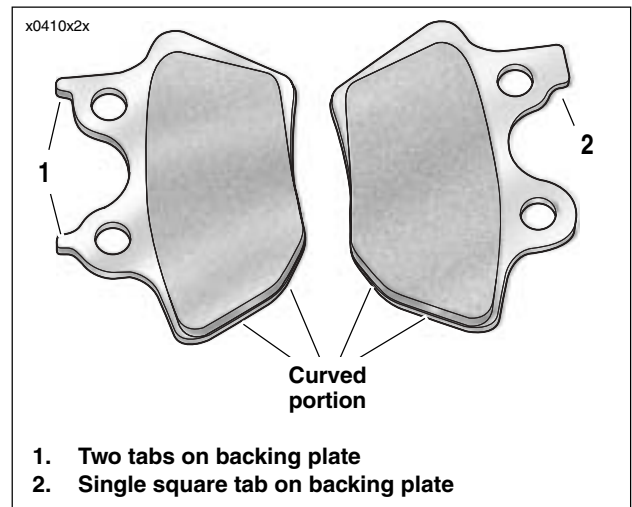

Figure 1-14. Brake Pad Orientation
See Figure 1-14. The front left, front right (not present on all vehicles) and rear brake calipers use the same exact brake pad set. Install pad with two tabs (1) on the inboard side of the rear caliper.
See Figure 1-14. The front left, front right (not present on all vehicles) and rear brake calipers use the same exact brake pad set.